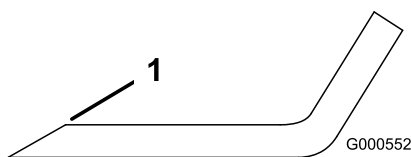

Figure 102
1. Use a file to sharpen the cutting edge at both ends of the blade (Figure 102).
Note: If the blade is not balanced, file some metal off the end of the sail area only (Figure 102).